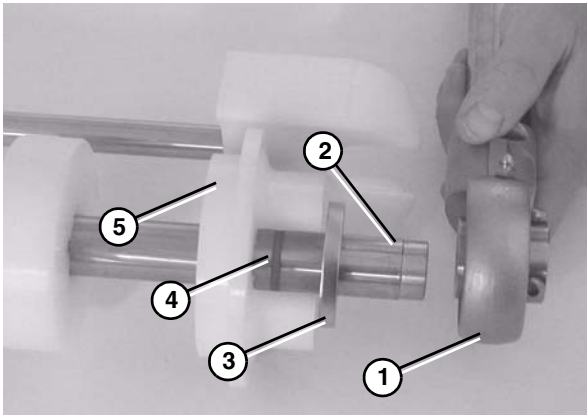

Figure 77
3. Attach the flanged pucks (Figure 77, item 5), O-rings (Figure 77, item 4), washers (Figure 77, item 3), and bearing shaft assembly (Figure 77, item 1) off the idler shaft (Figure 77, item 2).